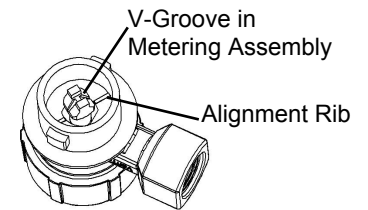

Fig. 2
10. Turn the nozzle over and align the Metering Assembly so that the V-Groove is in line with the two raised ribs on the bottom of the Main Body (Fig. 2).